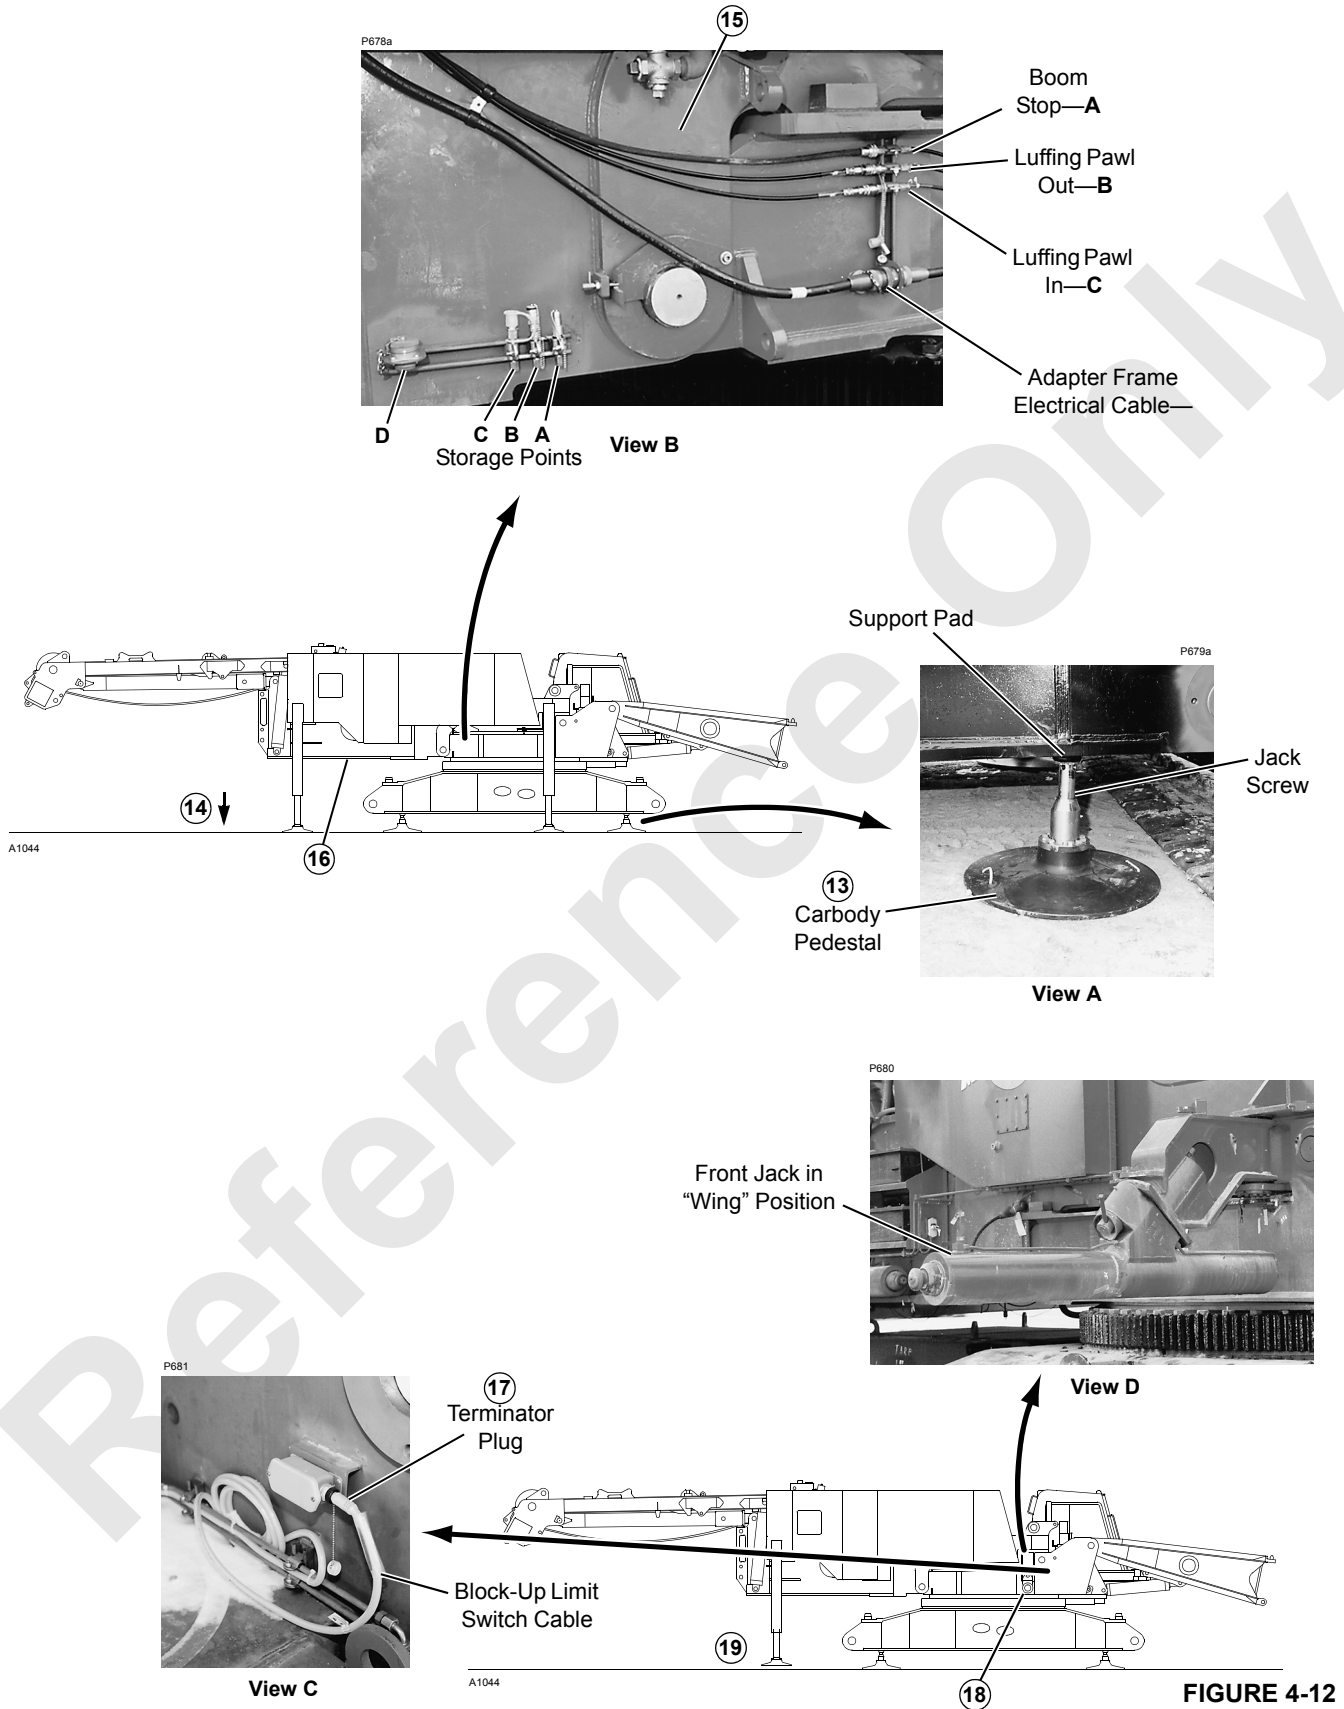

FIGURE 4-12
NOTE: The circled numbers in Figure 4-12 correspond to the numbers of the following steps.
13. Remove the four carbody pedestals from storage (Figure 4-7, View G) and place them under the support pads of the carbody (Figure 4-12, View A).
14. Retract the jacks to lower the carbody onto the four pedestals. Adjust the pedestal jack screws, as required, to level the carbody (Figure 4-12, View A).
15. Disconnect the electrical cable and the air lines from the storage points on the right side of the rotating bed and connect them to the plug and quick couplers on the right side of the adapter frame (Figure 4-12, View B).
17. Connect the block-up limit switch cable to the terminator plug (Figure 4-12, View C).
18. Turn on the engine and retract both front jacks, remove and store the jack pads (Figure 4-7, View B), and rotate the jacks to the horizontal "wing" position (Figure 4-12, View D). Do not swing the jack inward.